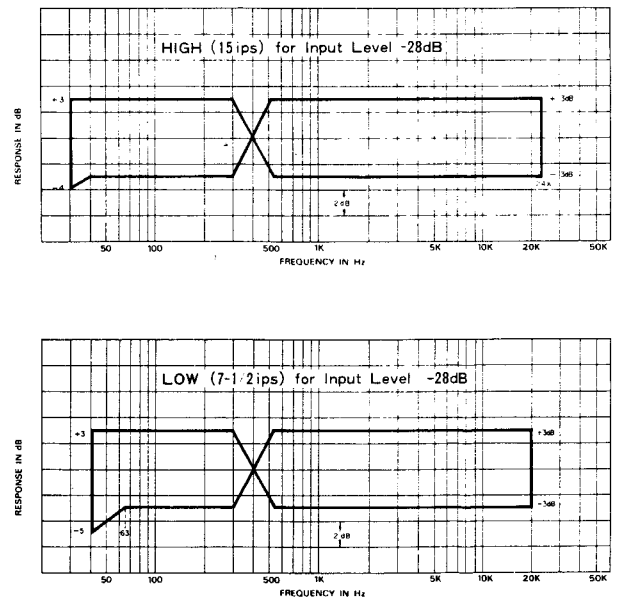

Fig. 10-15 Frequency Response –OVERALL– 3
29. During recording, monitor the Tape signal and adjust equalization VR-551 (On BIAS OSC UNIT) for both channels. Check for reading within the Response Limits chart. See Fig. 10-15.
31. During recording, monitor the Tape signal and check also for readings within the Response Limits chart. See Fig. 10-15.